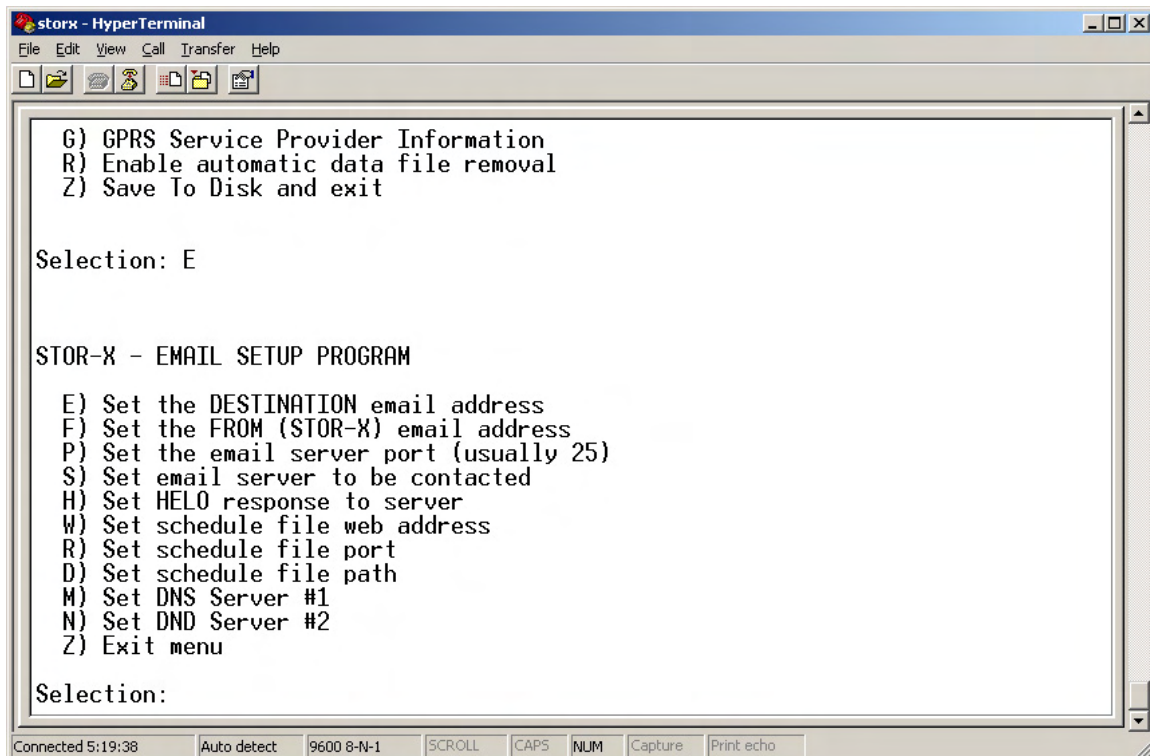

Figure 16 - Email Setup Menu
E) Set Email Preferences – displays the Email Preferences Menu is shown in Figure 16, and described in section 4.3.5.
This section describes the Email Setup menu. Accessed from the GSM Modem Configuration menu, the Email Setup menu is shown in Figure 16.